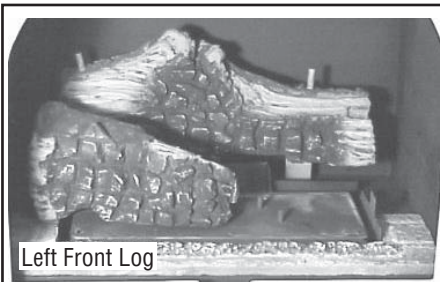

Figure 11
3. Place the left front log onto the corresponding burner pin and sub-floor left tab as shown in Figure 11.